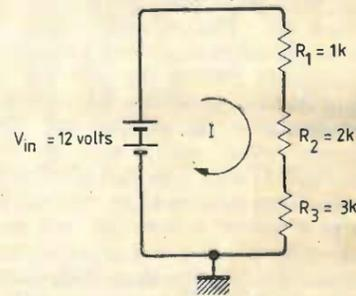

Fig. 1. Voltage divider consists of a voltage source and series resistors. (Positive current notation is used in this article.)
Perhaps the simplest shortcut is based on the voltage and current divider effect. The voltage divider effect allows one to calculate the voltage or IR drop across any resistor in a series circuit without first finding the current. For example, the IR drops across  $R_1$  in Fig. 1, is obtained using the expression
- Question 1. What is the voltage across  $R_2$  in Fig. 1, using the voltage divider principle?
- Question 2. What is the voltage across  $R_3$  in Fig. 1?